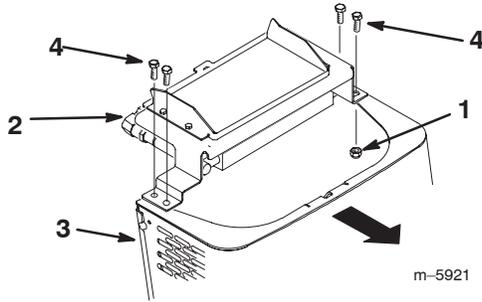

Figure 21
6. Remove the shoulder bolts and nuts securing the oil cooler to the top of the front screen (Fig. 21).